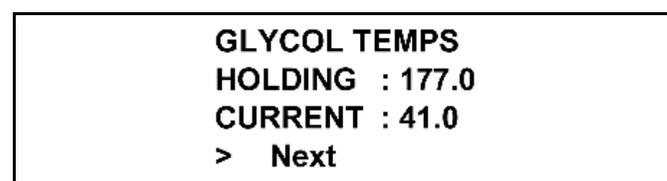

Figure 2-78
2. Save the setting by selecting the Calibration key  to advance to the next screen for the right Glycol temperature setting in the holding phase. (See Figure 2-78.)